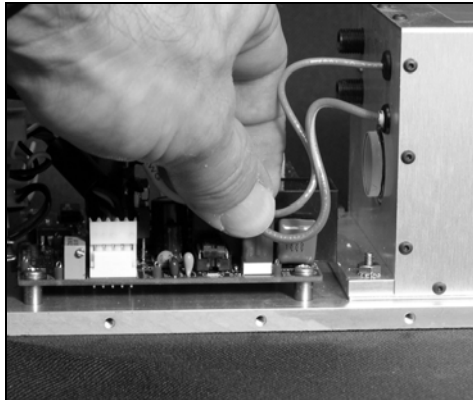

Figure 19. Disconnect the ground and monitor connector.
4. Disconnect the ground and monitor line connector, as shown in Figure 19.